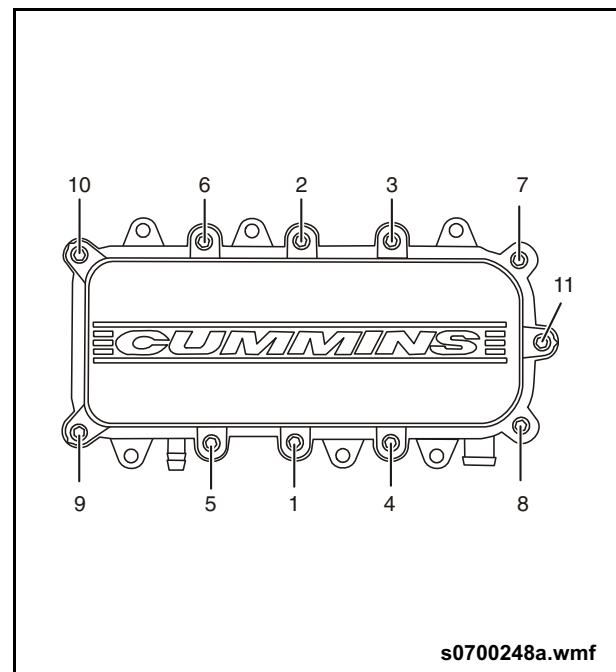

Fig. 3: Breather Cover Torque Sequence
3. Install the breather cover using eleven bolts. Torque bolts to 44 in-lb. (5 Nm) in the sequence shown. See "Fig. 3: Breather Cover Torque Sequence" on page 2.